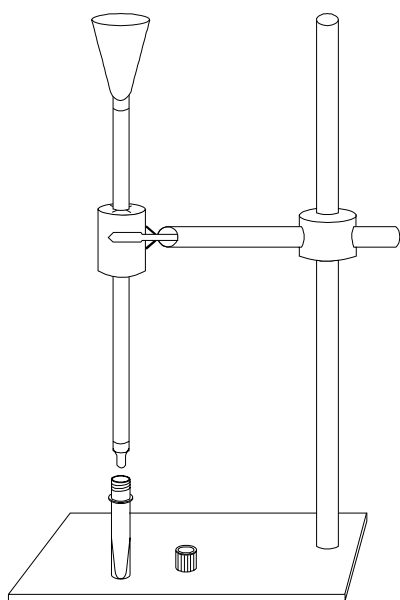

Figure 2. Column assembly.
2.1 Assemble the column and position it upright (see Figure 2): Attach a funnel to the top of a column. Gently insert the column through the X-cut in one of the provided foam holders. Using the foam holder, secure the column with a clamp to a ringstand. Carefully remove the cap from the bottom of the column.